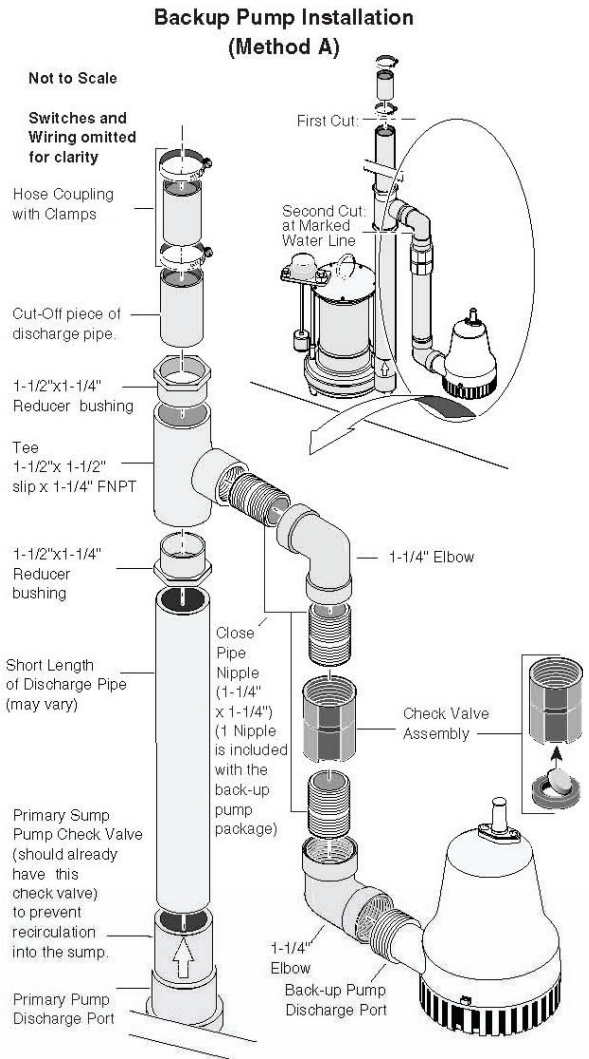
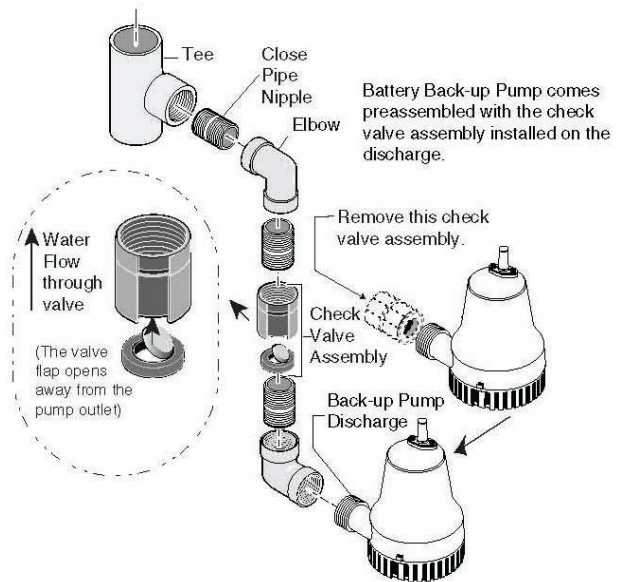

Figure 4 - Method A installation diagram
Figure 5 - Remove the pre-assembled check valve
The recommended method suggests installing both of the pumps on the floor of the sump pit. See Figure 4. The minimum required sump basin diameter, at the bottom of the pit and the recommended depth of the sump basin is 18". Some additional materials you will need are a rubber coupling with clamps to fit your discharge pipe diameter, (2) 1-1/4" 90° elbows, and (2) 1-1/4" close pipe nipples.
1. Make the second cut in the discharge pipe at the pencil mark as shown in Figure 1 on page 4, and in Figure 4, on Page 5. Clean the pipe ends with a cloth towel and set the cut-off piece of discharge pipe aside.
2. If already assembled, remove the check valve assembly (Key No. 3 on page 12) from the battery back-up pump discharge and set it aside. See Figure 5. The check valve assembly will be used later, during assembly.
3. Apply (2) wraps of Teflon tape to the discharge threads of the pump and thread a 90° elbow (purchased locally) onto the discharge of the back-up pump.
10. Install a short length of pipe into the top of the check valve in the primary pump discharge. See Figure 4.
NOTICE: Make sure the check valve is installed in the correct direction. See the inset drawing in Figure 5.
3. Thread the check valve onto the backup pump discharge ensuring that the valve housing and inner valve flap are oriented correctly. See Figure 5.